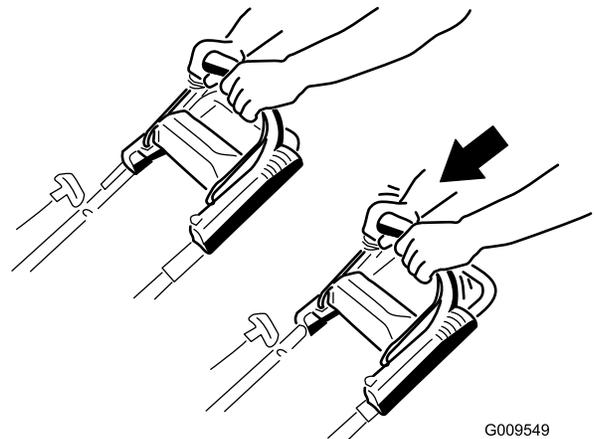

**Figure 13**
2. Push the electric-start button (Figure 12) (electric-start model only) or pull the recoil start handle (Figure 13).
**Note:** When you pull the recoil start handle, pull it lightly until you feel resistance, then pull it sharply (Figure 13). Allow the rope to return to the handle slowly.